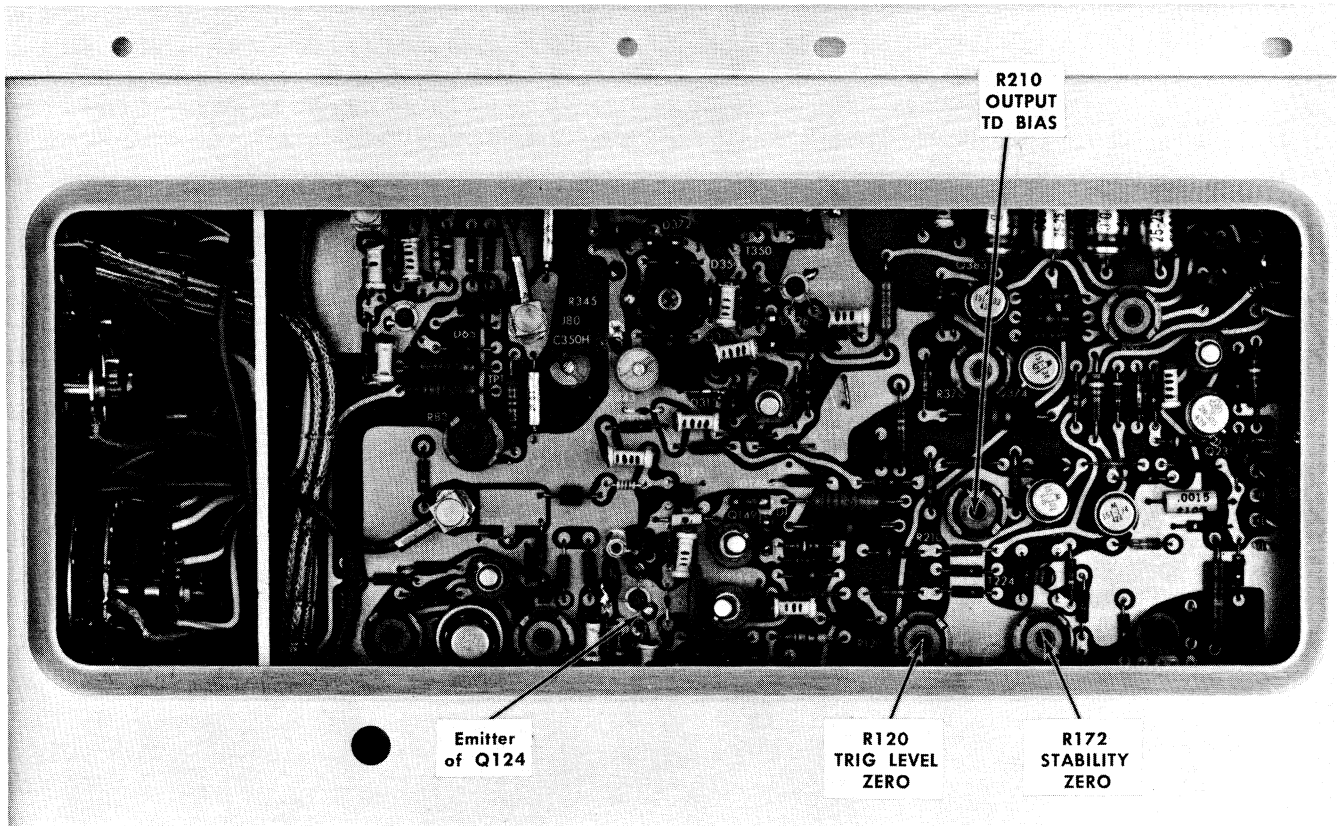

Fig. 5-5. Test point and controls for trigger adjustments.
- b. Turn R120 (TRIG LEVEL ZERO) fully counterclockwise. See Fig. 5-5 for the location of R120.
- c. Touch the voltmeter lead to the emitter of Q124 (see Fig. 5-5).
- b. Turn R210 (OUTPUT TD BIAS) clockwise until the trace free runs. The location of R210 is shown in Fig. 5-5.
- e. **Adjust** R172 (STABILITY ZERO) if the operation of the control is not correct. The location of R172 is shown in Fig. 5-5.